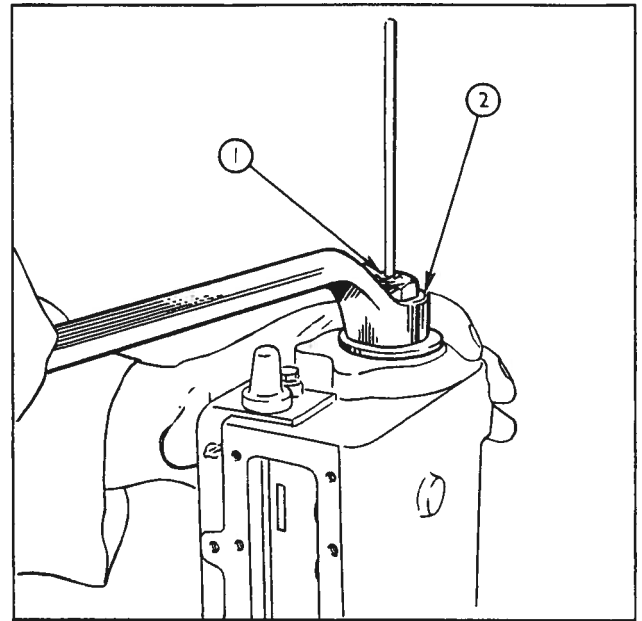

Fig. 18 Replacing the camshaft bearing cups
1. Replace the camshaft bearing cups, using Tool No. CT9051 by first assembling the cup to the tool, then locating this assembly on the inside of the bearing bore. Assemble the washer and nut of the tool from the outside, and use a ring spanner to tighten the nut and draw the bearing into position, Fig. 18. When fitting the front bearing fit the oil seal at the same time, ensuring that the lip is inwards.